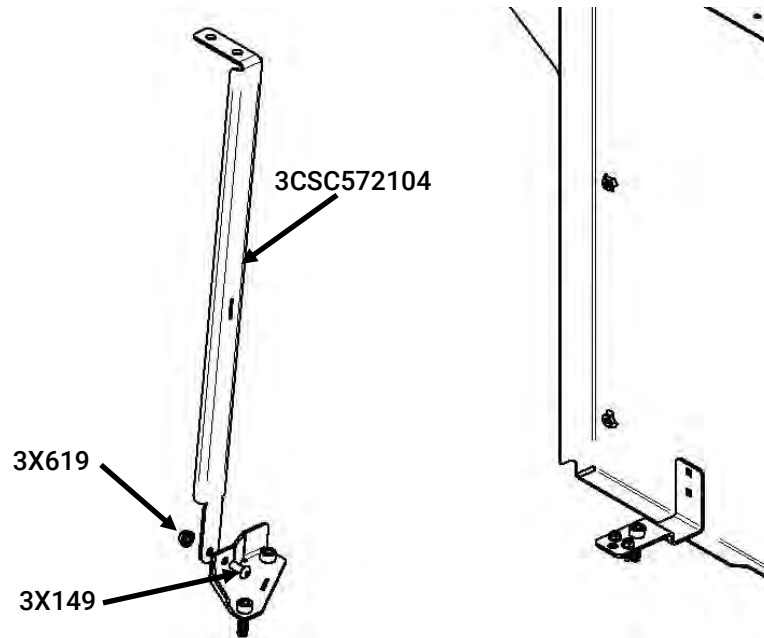

Figure 7
- A. Locate the CSC Center Support Bracket [3CSC572104] to the outside of the rear barrier floor bracket and fasten using 5/16-18 x 3/4" screw [3X149] and 5/16-18 serrated nut [3X619]. (Figure 7)